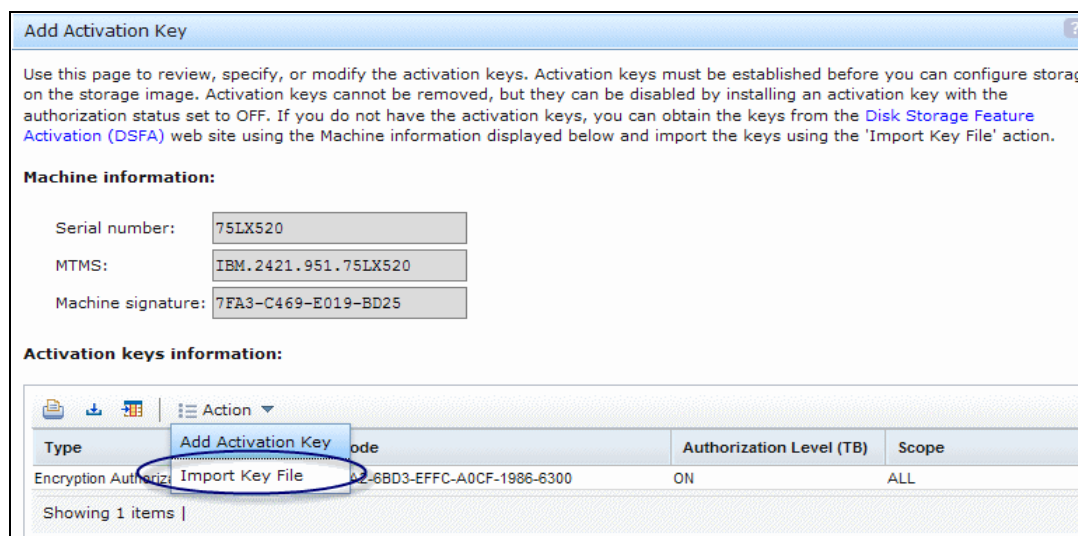

Figure 10-10 DS8000 Storage Manager GUI: select Import Key File
1. This method is to apply the activation codes using your local computer or a USB drive. Click the **Action** pull-down menu under **Activation Keys Information** and select **Import Key File** as shown in Figure 10-10.